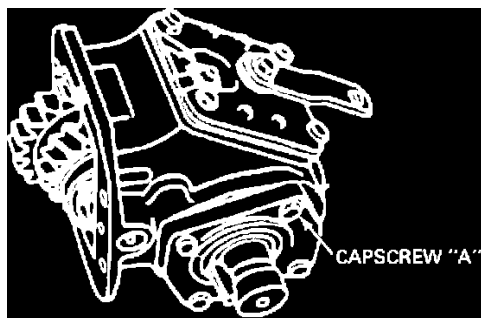

FIGURE 2
2. Remove the uppermost capscrew ("A") on the output shaft bearing cover of the P.T.O., Figure 2.